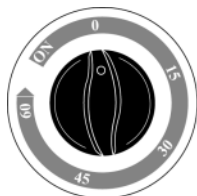

FIGURE 6
1. Set Timer Dial to “0” position to turn power off (FIGURE 6).